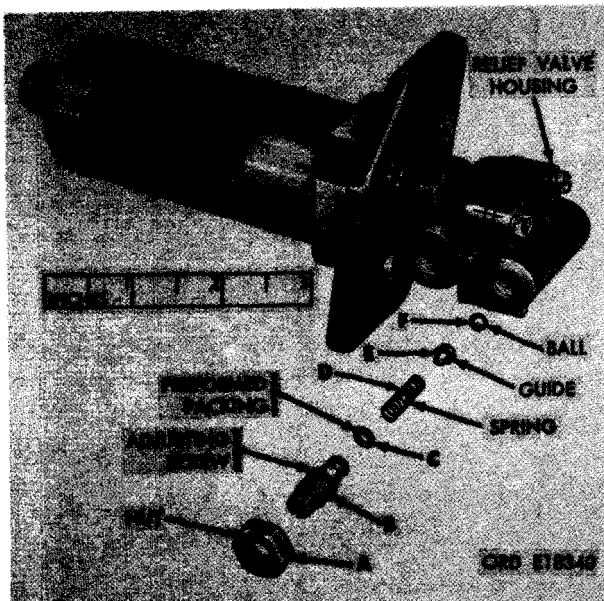

FIGURE 413. REMOVING OR INSTALLING RELIEF VALVE.
- (2) Figure 413. (A) Remove 5/16- inch check nut. (B) Remove relief valve adjusting screw from relief valve housing. (C) Remove 7/64 id x 0.070 thk preformed packing from relief valve adjusting screw and discard. (D) Remove compression spring. (E) Remove relief valve ball guide. (F) Remove relief valve ball.